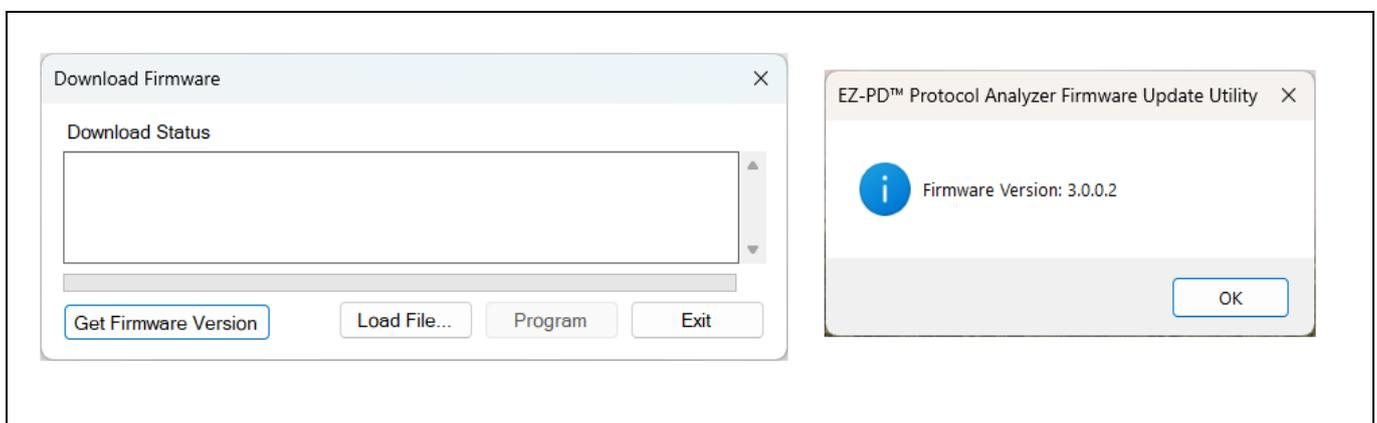

Figure 15 Get the current firmware version and dialog box
2. On the host PC, launch the download firmware application from *<install location>\EZ-PD Protocol Analyzer Utility\Firmware_Update_Tool\EZPD_Firmware_Update_Tool*. The utility's start-up page looks similar to the image shown in Figure 15.
3. Check the current firmware loaded on the EZ-PD™ Protocol Analyzer hardware by selecting **Get Firmware Version** as shown in Figure 15. A dialog box showing the current firmware version appears.